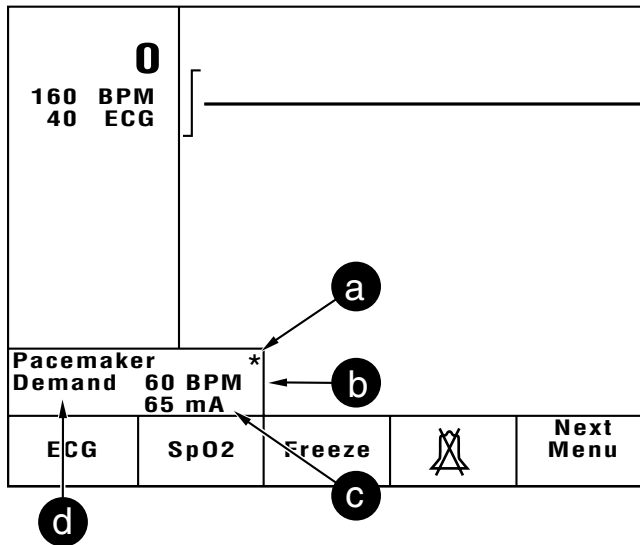

Figure 10-6. Screen display with pacemaker switched on
- * Increase the pacer rate with the  button until the asterisk (a, Figure 10-6) just begins to flash: The pacer rate is now identical with or just above the intrinsic heart rate.